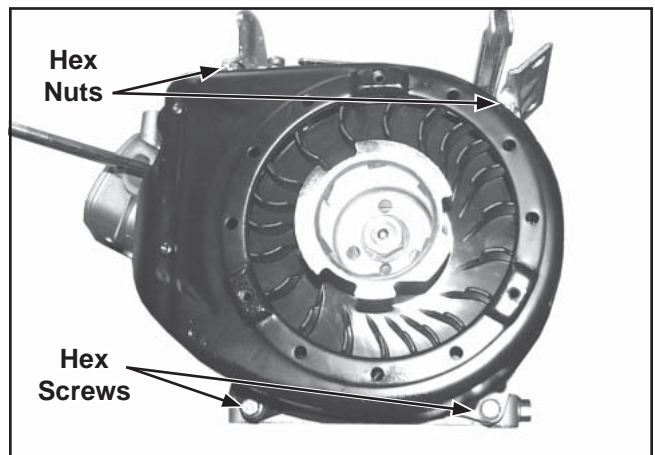

Figure 9-18. Remove CH270 Blower Housing Hardware.
1. Remove the hex flange screws and two hex flange nuts (CH270 only) securing the blower housing. See Figures 9-18, 9-19, and 9-20.